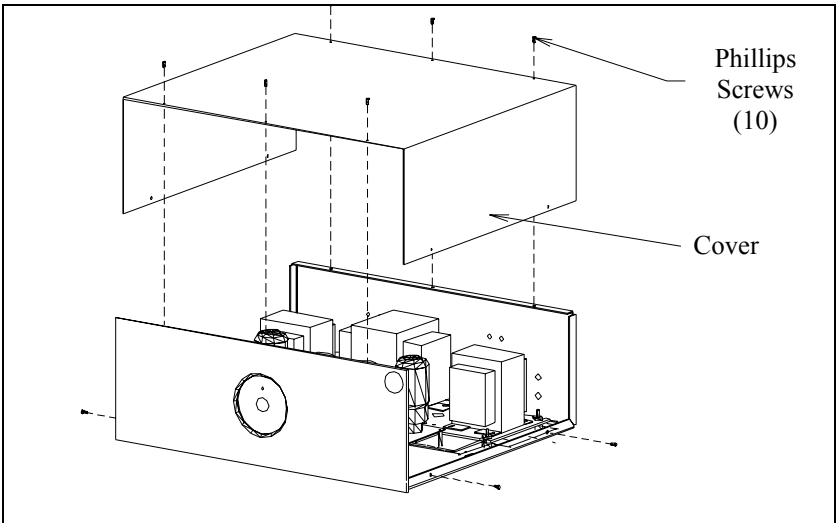

Figure 2
- 3) *Remove the Top Cover* - Using a phillips head screwdriver, remove the top cover of the amplifier chassis. See Figure 2.
- 4) Remove the top cover. See figure 2.